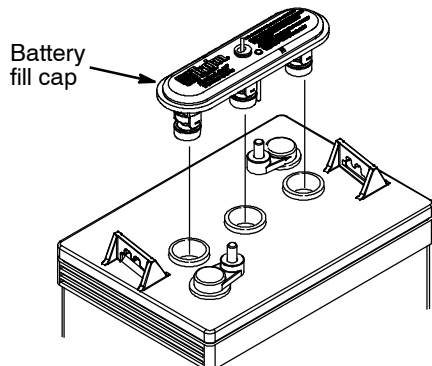

Fig. 2
4. Install battery fill caps on batteries (Figure 2). Firmly press caps into place, do not use hammer. Ensure caps are completely seated to avoid spillage.